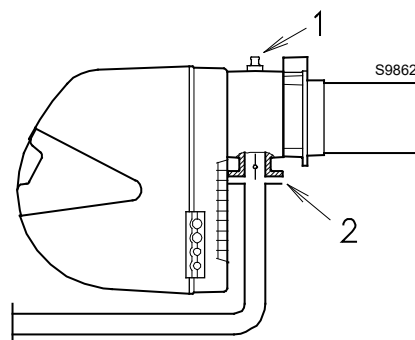

Fig. 18
Gas pressure measured at test point 1)(Fig. 18), with:
Pressure loss at gas butterfly valve 2)(Fig. 18) with maximum opening: 90°.
- subtract the combustion chamber pressure from the gas pressure measured at test point 1)(Fig. 18).
To calculate the required gas pressure at test point 1)(Fig. 18), set the maximum modulating output required from the burner operation:
- read, on the right (column 1), the pressure at the test point 1)(Fig. 18).
pressure required at test point 1)(Fig. 18).